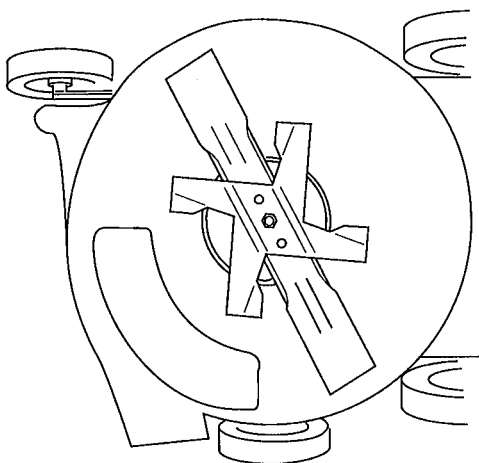

Figure 21
2. Tip mower onto right side (Fig. 21).